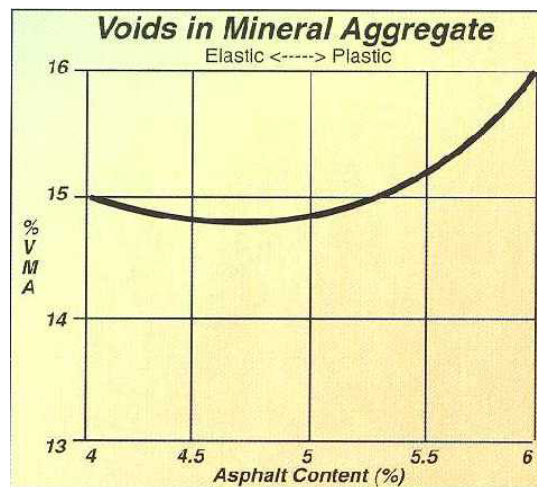

Figure 1
The best method to analyze a mix for cohesion is to observe where the asphalt content (AC) falls on the VMA curve. For maximum cohesion and elasticity in a mix, AC should be selected slightly to the left of the minimum VMA value. Figure 1 illustrates a typical VMA curve.
An optimum AC selected by the guidelines from Figure 1 is about 4.2 percent. This is not enough AC to provide adequate cohesion and durability of the mix, which should be redesigned using a cleaner material with less P200.
Figure 1 shows the typical relationship of VMA and AC high in P200. The low point of this curve is the critical point of a mix. It indicates the value of AC content that changes the state of the mix from elastic to plastic. For maximum cohesion, it should be selected near and to the left of maximum AC.